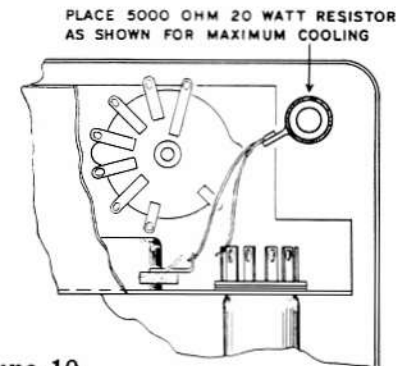

Figure 10
- (X) Connect a wire between lug 1 (S) on the candelabra socket and lug 1 (NS) on the 600 Ω oscillator control.
- (X) Connect a 330 Ω resistor between lug 1 (S) (2) on the oscillator control, through pin 7 (S) to pin 2 (NS) on the 6AU6 socket.
- (X) Connect a wire between pin 5 (S) on the 6AU6 socket and pin 9 (S) on the 6CL6 socket.
- (X) Connect a 120 K Ω resistor between pin 6 (NS) (use sleeving over this lead) on the 6AU6 socket and through pin 8 (S) to pin 3 (NS) on the 6CL6 socket.
- (X) Connect a 47 Ω resistor between pin 1 (S) and pin 7 (NS) on the 6CL6 socket.
- Connect a 47 K Ω 2 watt resistor between pin 2 (S) and through pin 6 (S) to pin 3 (S) on the 6CL6 socket.
- Connect a 16 μ fd 150 volt electrolytic condenser with the positive (+) lead to pin 6 (S) (2) and the negative (-) lead to pin 2 (S) (2) on the 6AU6 socket. Use sleeving on both leads. Place condenser close to chassis.
- Place the line cord through the hole in the rear edge of the chassis. Connect one lead to lug 1 (S) (2) and the other lead to lug 2 (S) (2) on the terminal strip.
- Connect a 20 μ fd 350 volt electrolytic condenser with the negative (-) lead to lug 2 (NS) on the candelabra socket and the positive lead (+) to pin 7 (NS) on the 6CL6 socket. Use sleeving on these leads.
- Connect a 5000 Ω 20 watt resistor between pin 7 (S) (3) on the 6CL6 socket and lug 2 (S) (2) on the oscillator control. Leave the leads fairly long and dress as shown in Figure 10.
- Connect a 7 1/2" wire between lug 2 (NS) on the candelabra socket and lug 3 (S) on the output control.
- Connect a 3 1/2" wire between lug 3 (S) (2) on the oscillator control and lug 1 (S) on the output control.
- Connect a wire between lug 5 (S) (3) on the 5-lug terminal strip and the nearest twisted mounting prong (NS) on the filter condenser.
- Connect an 8 1/2" wire between lug 3 (S) (3) on the 5-lug terminal strip and lug 2 (S) on the meter control.